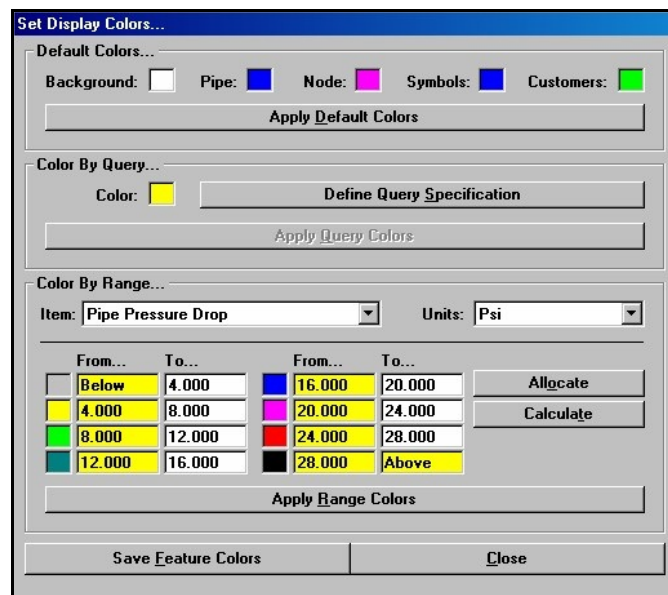

Figure 5
- The Set Display Colors screen will be displayed. In the *Color By Range* section, select the **Pipe Pressure Drop** item from the *Item* list. Select **Psi [Bar]** from the *Units* list. Next, select the *Calculate* command button to automatically set the range values. Values will be placed in the *From* and *To* data fields as shown in Figure 5.